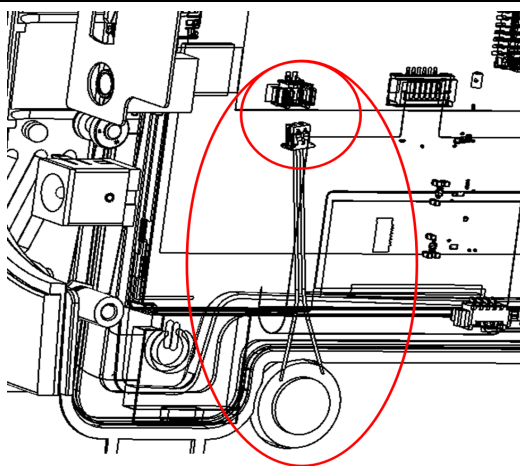

**Figure 5-8.** Speaker Assembly
5. Remove the Speaker connection from the back side of the LCD/Touchscreen assembly as shown in Figure 5-8.